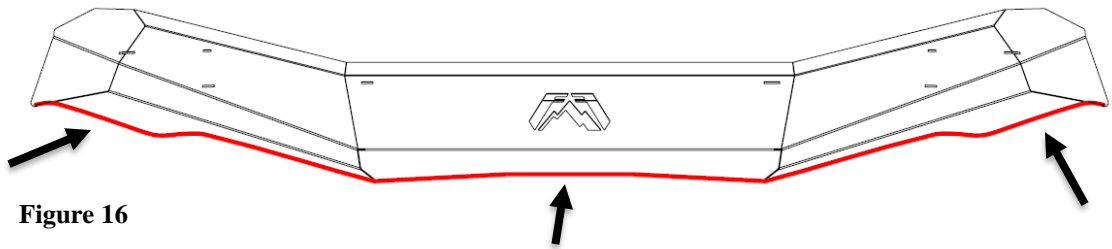

Figure 16
5. Install the edge trim with adhesive onto the leading edge of the Cowl. (Figure 16)